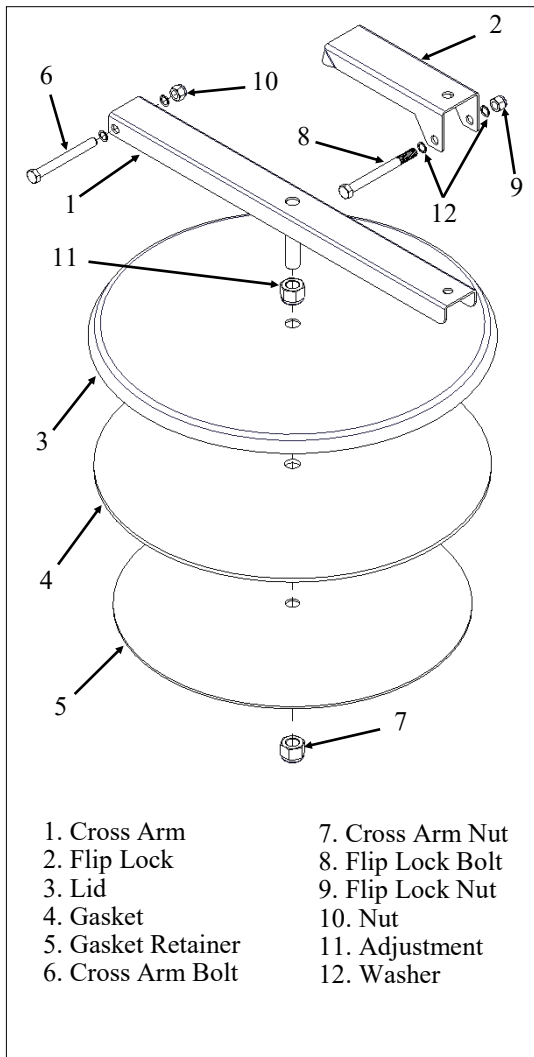

Figure 5-1. Manway Assembly
5.3.2 Manway Assembly. The manway assembly is located on the top of the tank. The manway assembly has one adjustment point, see Paragraph 5.3.2.2 for adjustment steps. Use Figure 5-1 for the following maintenance steps.